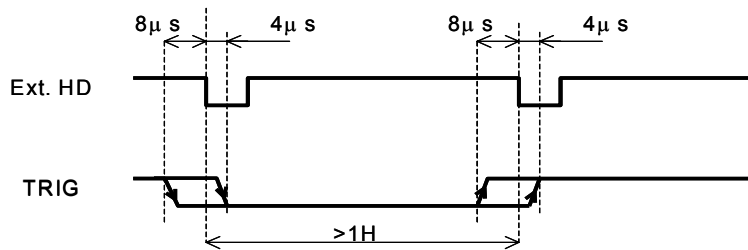
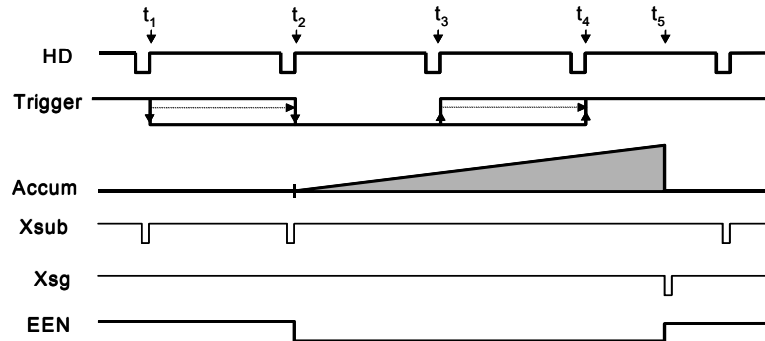
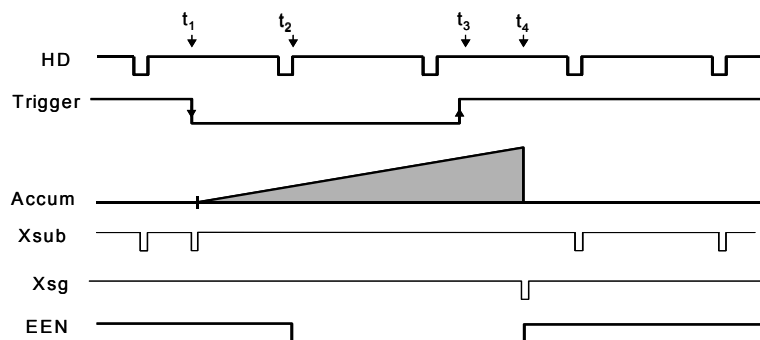

Fig. 17. Trigger/HD Timing.
Fig.18. Pulse Width H Synchronous Accumulation
Fig. 19. Pulse Width H Asynchronous Accumulation.
The default accumulation is HD synchronously accumulation (HC=0). The accumulation starts at the first HD after the trigger leading edge. Fig. 18. To avoid the $<1H$ jitter caused by this delay, synchronize the external trigger to HD as shown in fig. 17 below. The trigger level translations should be placed inside the $8 + 4 \mu\text{s}$.
In PWC mode (TR =2) and Frame Delay readout (TR=3), the accumulation mode *HC* can be set to asynchronous accumulation (HC=1). The exposure will start immediately at the leading edge of the trigger pulse without waiting for the HD. Fig. 19. below.
- The start of exposure will start synchronized to the internal H signal. The start may be shifted max 1H. To avoid this shift (1 H jitter), synchronize the camera to an external HD and make sure that the trigger pulse aligns to the HD as shown in fig. 17.
- With HC=0 the start of exposure will start synchronized to the internal H signal. The start may be shifted max 1H. To avoid this shift (1 H jitter), synchronize the camera to an external HD and make sure that the trigger pulse aligns to the HD as shown in fig. 17. With HC=1 the exposure will start immediately. Refer to fig. 18 and fig. 19.
- With HC=0 the start of exposure will start synchronized to the internal H signal, the start of exposure may be shifted max 1H. To avoid this shift (jitter), synchronize the camera to an external HD and make sure that the trigger pulse aligns to the HD as shown in fig. 17.
- With HC=1 the exposure will start immediately. Refer to fig. 18 and fig. 19.